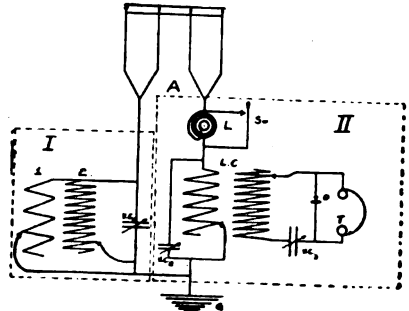

Fig. 2. Loop Aerial and Loading Coil
"There is an arc light on our corner, that just roars into the 'phones, making receiving very difficult." This and similar line interference can be eliminated by the well known loop aerial circuit and a good variable condenser shunt to the ground, Fig. 2, in which (A) is the looped aerial; (L), the loading coil; (Sw), a switch to cut out (L); (LC), a loose coupler; (D), a detector; (VC), a variable condenser; (T), head phones; (G), ground; (1), a small inductance coil and (2), a high inductance coil. Use receiving instruments as usual. The shunt through the small inductance (1), the high inductance (2), and